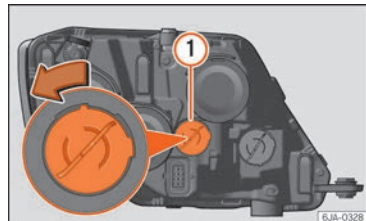

Fig. 95 Changing daytime driving light bulbs.
- Turn the bulb holder »» Fig. 95 ① anti-clockwise and remove it.